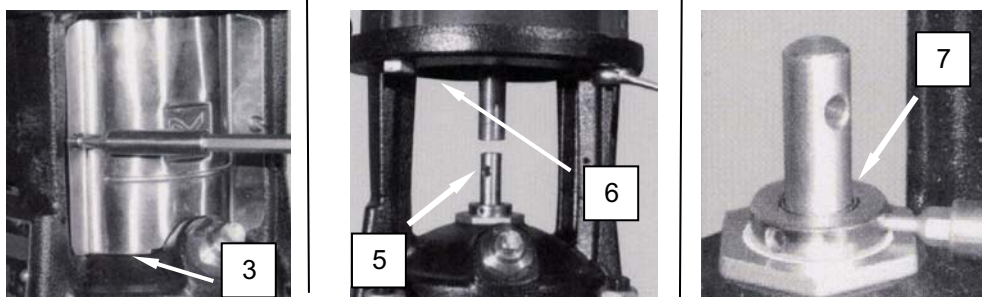

Figure 7. Replace the Pump Impellor.
14. Install the pump head and motor stool (**Figure 7, Item 6**) and retain with nuts.
15. Install a new O-ring onto the cartridge seal (**Figure 7, Item 7**), and install the cartridge seal. Do not tighten the setscrews.
16. Install the motor (**Figure 7, Item 2**) onto the motor stool (**Figure 7, Item 6**) and retain with bolts.
18. Install coupling pin to pump shaft (**Figure 7, Item 5**).
20. Tighten the cartridge seal (**Figure 7, Item 7**) securing setscrews.
21. Install the coupling guard (**Figure 7, Item 3**) and retain with screws.